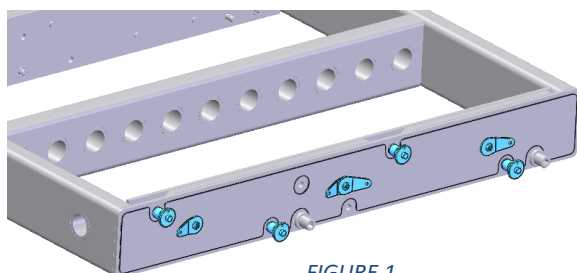
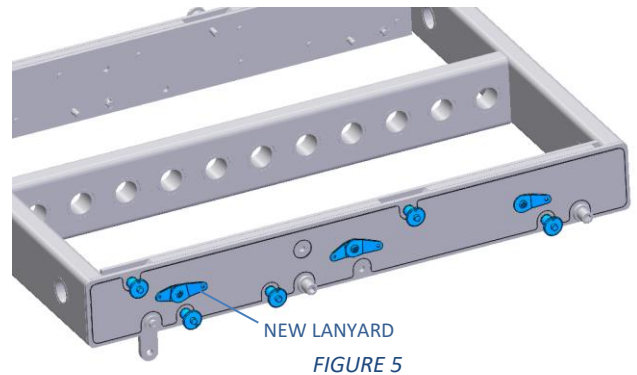

FIGURE 1
FIGURE 5
1. Remove the existing lanyard lock pin and tabs highlighted in FIGURE 1 with a Philips screwdriver. Place aside and save all screws and lanyard lock pins as these will be reinstalled later. Do this on both sides. Note: The lanyard wires have been removed in FIGURE 1 and FIGURE 5 for clarity.
5. Re-install lanyards removed in step 1, with the additional lanyard in this kit, 134.036, as shown in FIGURE 5. Add one drop of supplied thread locker (640.096) to each screw and torque to 14-18 in-lbs [1.6-2.0 N-m]. Note: Thread locker must be applied in ambient temperature above 50° F [10°C]